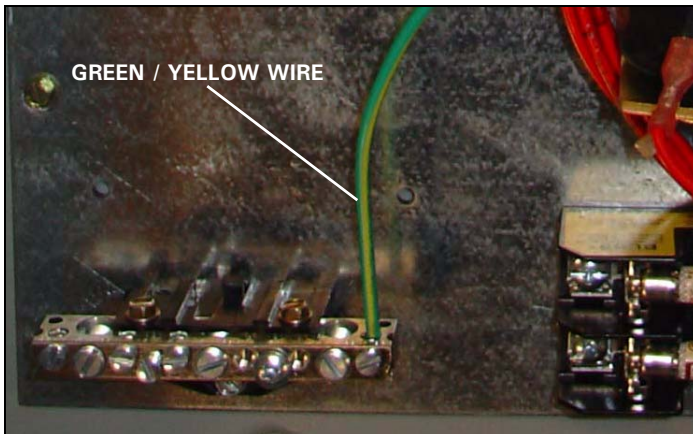

Figure 70. TVSS Green / Yellow Wire Connected to the Ground Bar.
Step 12: Secure the green / yellow TVSS wire to a receptacle on the ground bar using a blade screwdriver (see Figure 70).